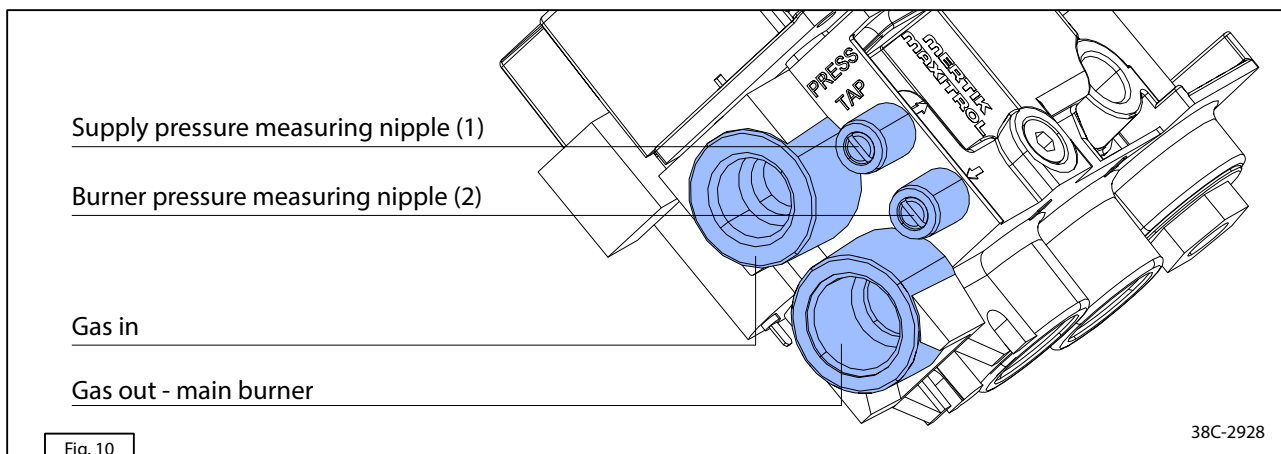

Fig. 10
- Open the valve of the burner pressure measuring nipple a few turns with a flat-head screwdriver and connect the pressure gauge (see Fig. 10 (2)).
- Disconnect the pressure gauge and close the valve of the burner pressure measuring nipple (2) (see Fig. 10).